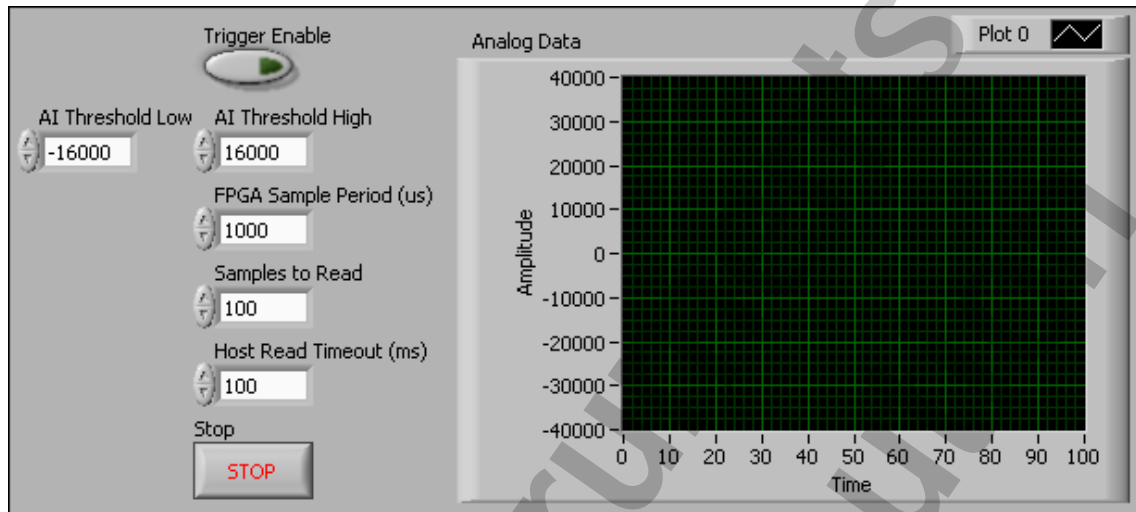

Figure 9-8. Custom Trigger Windows Host.vi Front Panel
10. Modify Custom Trigger Windows Host Front Panel, as shown in Figure 9-8.